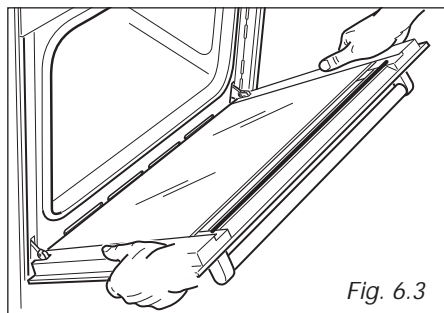

Fig. 6.3
- Hold the door as shown in fig. 6.3.